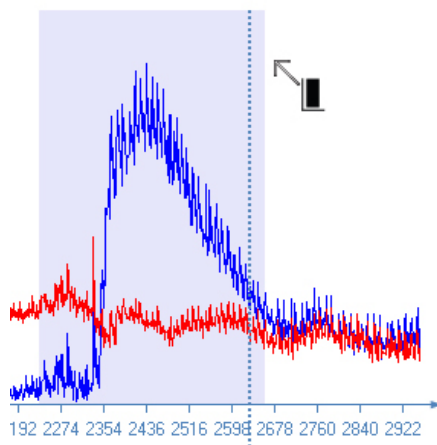

Figure 7-11 Defining a new TOI.
3. Click and hold on the graph at the position where you want the TOI to begin and drag the cursor to the desired end position, see Figure 7-11. Then release the mouse button.